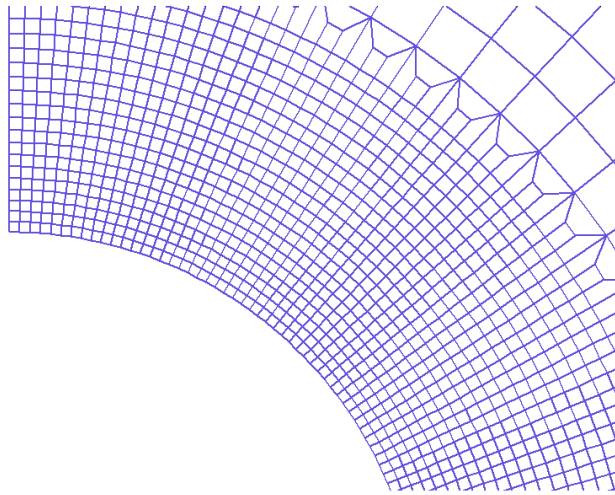

Figure 2: An example of a Q4 mesh with grading and element size transition. This shows a portion of the mesh near the hole.
Hint: This problem requires a high density of Q_4 elements near the edge of the hole, while elements further away can be much larger as our region of interest lies close to the hole. Your mesh should, therefore, be 'graded' as shown in Fig. 2. This exercise is infeasible without element size transitions, you would require too many elements!
3. Write a MATLAB function ‘isoparamT6stiffness’ that returns the 12×12 stiffness matrix of a plane stress, isoparametric, quadratic triangular element given the relevant input parameters. Recall that the physical element has 6 nodal coordinates $(x_1, y_1) \cdots (x_6, y_6)$. Use the $r - s$ element formulation with full numerical integration using three interior sampling points. You can test the element’s correctness by (1) Checking the Jacobian for a straight-sided element with side nodes at the mid-points of edges and (2) Using it to solve the cantilever problem
5. You can use any third-party mesh generator of your choice for mesh generation (e.g. Gmsh) or write your own. However, you must report which mesh generator you used, and include detailed pictures of the meshes you use with a zoom on areas near the hole. The mesh generator that you use must have the ability to generate graded meshes, as explained earlier (see Fig. 2).